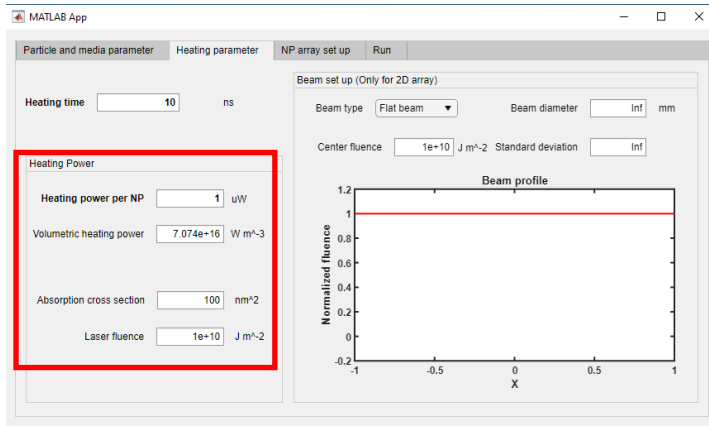

Figure 3.2
There are three methods to set the heating power (g) (Fig. 3.2). The first one is to set the heating power per NP [W], the second method is to set the volumetric heating power [W/m^3], the last method is to set Absorption cross section (C_{abs}) and the Laser fluence (F), $g = C_{abs} * F$.